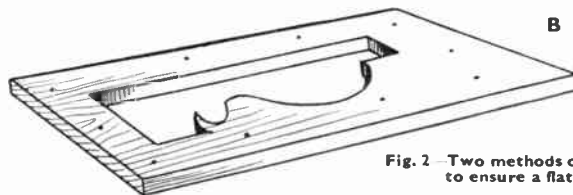
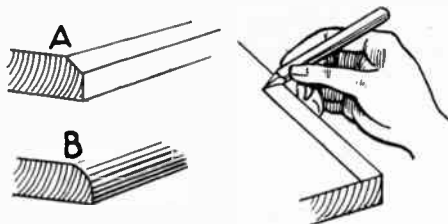

Fig. 2 — Two methods of glasspapering to ensure a flat surface
Fig. 4 Pencil mark the edge before shaping
In undertaking small parts, their cleaning is sometimes difficult, and here are two suggestions which may help you out. Both are illustrated at Fig. 2 and almost explain themselves. Instead of using the glasspaper on the work in the ordinary way, reverse the process and rub the work on the glasspaper.
At (B) Fig. 2 you have the suggestion for a similar piece of work. This, as you see, is cut from the piece of wood to leave a solid framework, thus for cleaning the little piece of fretted work can be replaced in its original board and thus leave the whole flat surface suitable and simple for cleaning with glasspaper. The board can be pinned to the table for fixing if you wish.
A sheet can be laid flat as (A) Fig. 2, or lightly pinned to the bench with drawing pins, if it is likely to cockle. Then the small piece being cleaned is laid on the glasspaper, and with a circular motion is
see the result shown in (B) at Fig. 4.
A good plan—indeed, it is essential to get the right finish—is to mark your pencil line along the surface of the wood (see Fig. 4) to show the extent of your curve when the rounded portion is finished. The pencil point is drawn along with the finger pressed close to the edge, thus maintaining a straight line—providing the actual edge itself is straight. Then you can plane down some of the unwanted wood until you get a slope or chamfered edge, as you see at (A) Fig. 2.